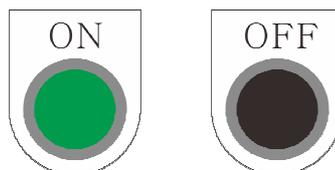

Figure 3-3-2 Controller power switches
(1) Controller power switches : In by the front door as shown in Figure 3-3-2. Pushing down the green button on the left will turn on the controller power; pushing down the black button on the right will turn off. Please noted, the emergency stop (E-STOP) button need is push down before you turn on the controller power.